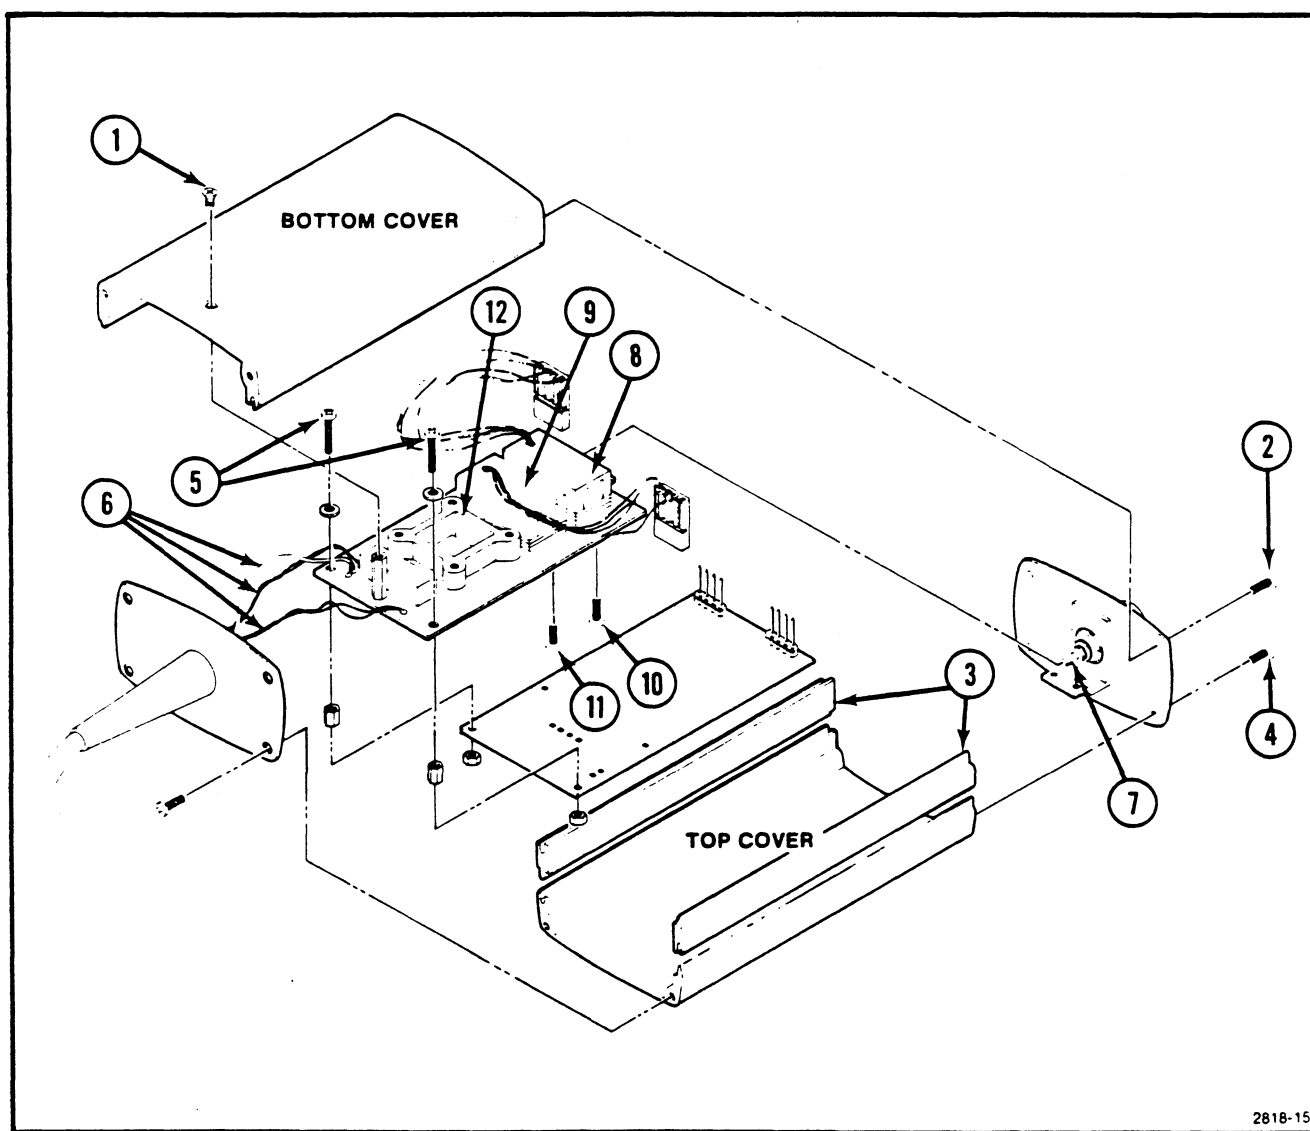

Fig. 5-1. Maintenance diagram (exploded view).
*Refer to Fig. 5-1 for the following procedures:*
The Hypcon Connector and hybrid IC (see Fig. 5-1, ⑫) should be removed if it is necessary to use a cleaning solvent near (1/2") the connector.
**Board Removal and Replacement (See Fig. 5-1).**
a. Remove the two screws ⑤ securing the Fast Edge board to the Fast Edge Driver board.
a. After board removal, carefully unsolder the cable connections ⑥ and remove the cable.
**Log Cell Removal and Replacement (Refer to Fig. 5-1)**
a. Loosen two screws securing clamp ⑦. Slide clamp forward to expose coaxial center conductor.
c. Note the log cell ⑧ wires lead dress to the board (essential for proper high frequency operation of the unit).
e. Disconnect log cell vector. Unscrew four Fast Edge board screws ⑩ securing the log cell to board.
b. Replace the four Fast Edge board screws ⑩.